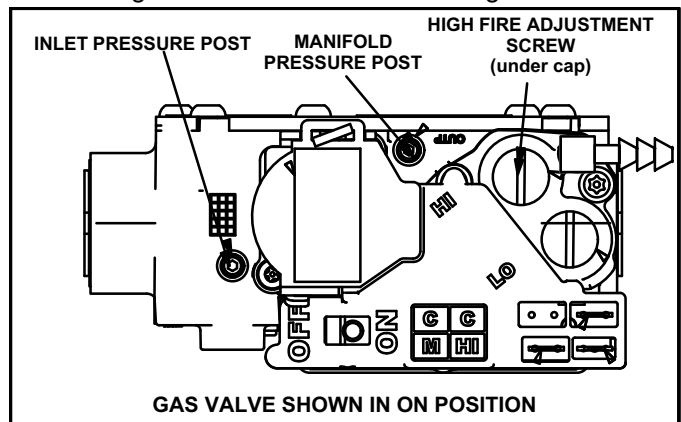
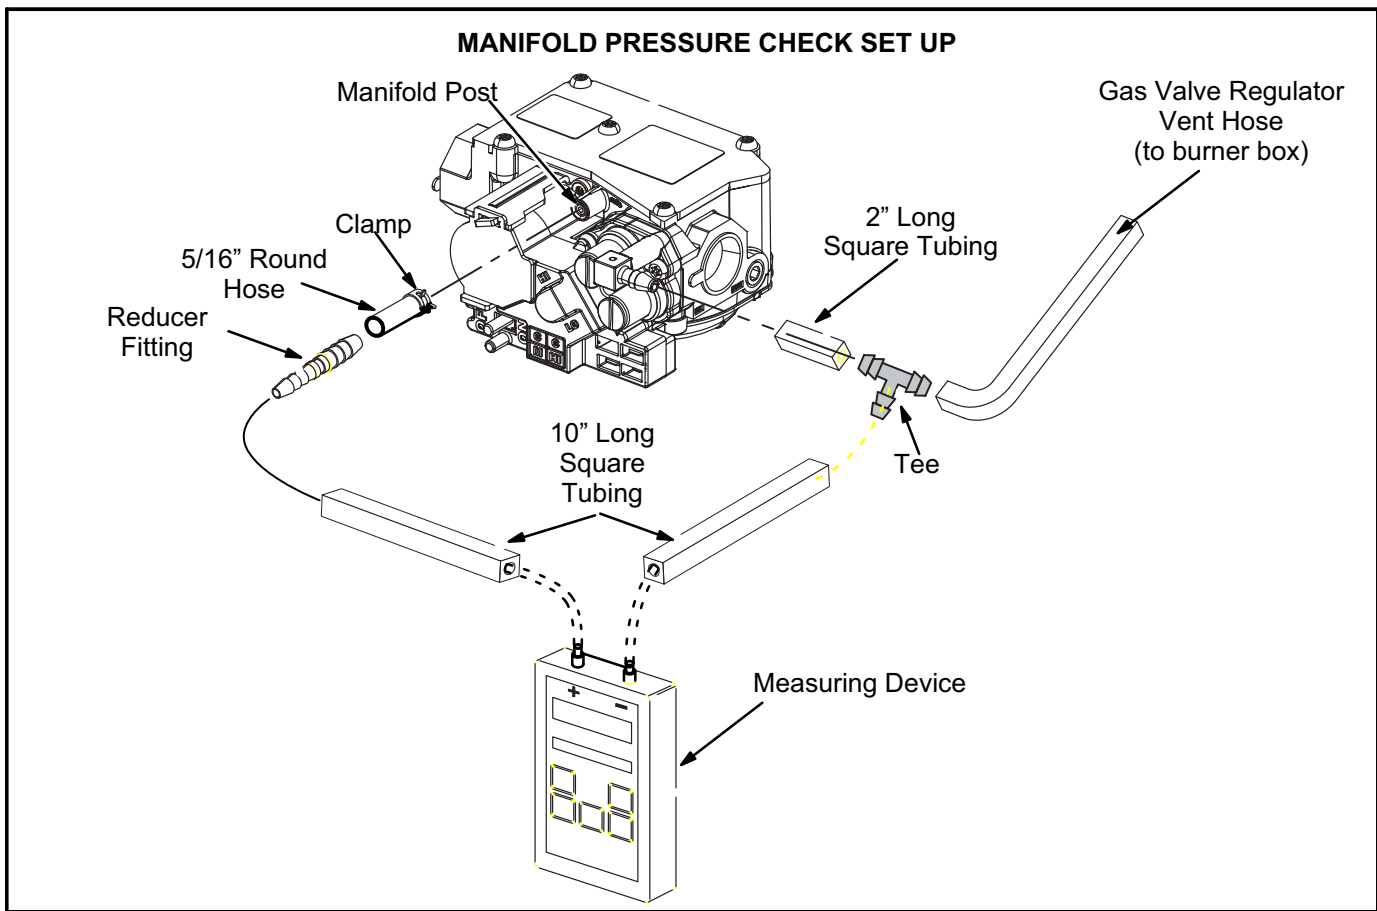

FIGURE 50
FIGURE 52
Gas Valve Operation (Figure 50)
- 6 - Move gas valve switch to **OFF**. See figure 50.
- 8 - Move gas valve switch to **ON**. See figure 50.
An inlet post located on the gas valve provides access to the supply pressure. See figure 50. Back out the 3/32 hex screw one turn, connect a piece of 5/16 tubing and connect to a manometer to measure supply pressure. See table 23 for supply line pressure.
A manifold pressure post located on the gas valve provides access to the manifold pressure. See figure 50. Back out the 3/32 hex screw one turn. Follow the steps below and use figure 52 as a reference. Gas manifold Kit 10L34 provides additional components if needed
- 7 - If necessary, make adjustments. Figure 50 shows location of high fire and low fire adjustment screws.